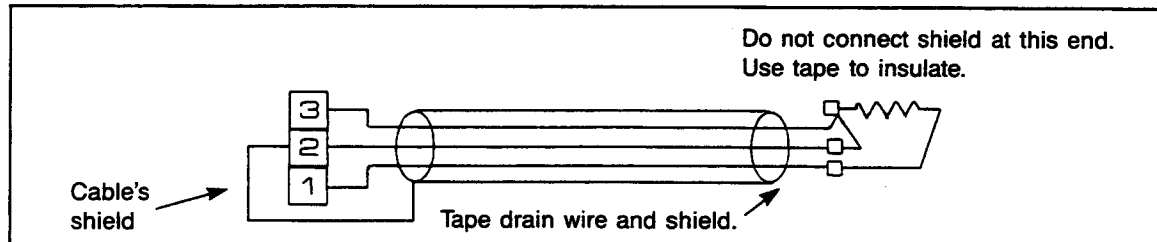

Figure 7.8 — RTD Wiring
7.5.1 RTD Wiring — If the optional RTD Module is used, each RTD must be wired as shown in Figure 7.8. Also, note the following requirements:
- At the RTD, 2 return lines must be wired together, as shown in Figure 7.8.
- In cases where the motor provides only 2 leads from the RTD, connect 2 of the 3 conductor wires together at one of the leads. Make this connection as close to the RTDs as possible. (See Figure 7.8.) If only 2 wire leads are connected between the motor and the IQ-1000, the unit does not function properly.
In cases where one or more of the 10 possible RTDs is/are not used, it is recommended to jumper out each set of unused RTD inputs separately. For example, if load bearing RTD *2 inputs are not used, jumper terminals 29, 30 and 31 together and separately jumper terminals 26, 27 and 28. A portion of a typical RTD wiring diagram is shown in Figure 7.8 while a complete RTD wiring plan is shown in Figures 5.7 and 5.8.